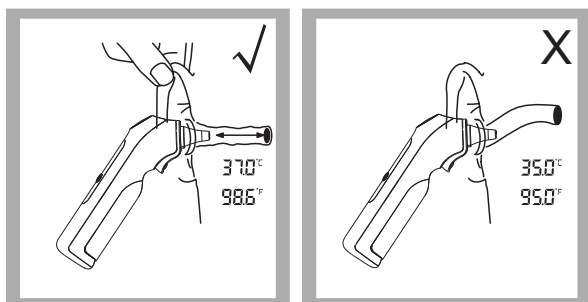

Figure 4
3. Insert the probe along the ear canal as deep as possible into the ear as depicted in Figure 4. Then press the **Test BUTTON** once to start the measurement. A long beep will sound approximately 1 second after the **Test BUTTON** is activated. This signals the end of the process as results are displayed on the LCD screen.